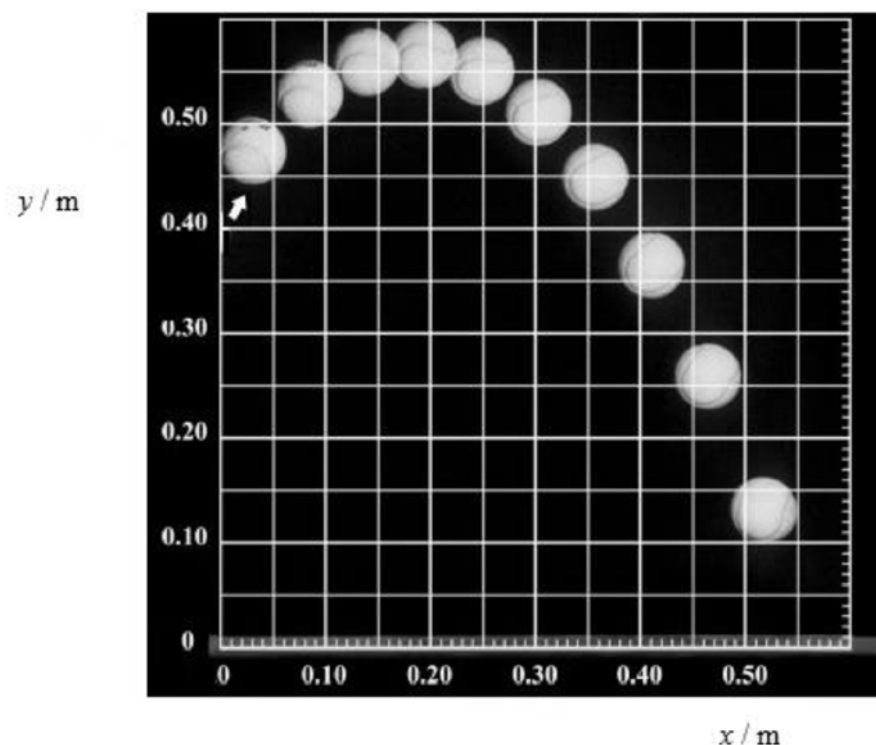

Fig. 1
- 1 A teacher uses strobe photography to demonstrate the motion of a tennis ball thrown under gravity. She opens the camera shutter in a darkened room and throws the tennis ball in front of the lens as the strobe flashes at 20 ± 2 Hz. Fig. 1 shows the result, superimposed on a metric grid.
A student takes measurements of the y position from Fig. 1, starting from the image centred on $x = 0.20$ m. He measures the y positions from the bottom of the ball and performs calculations; some are recorded in the table below. He concludes that g , the acceleration of gravity, is $9.2 \pm 0.4 \text{ ms}^{-2}$.